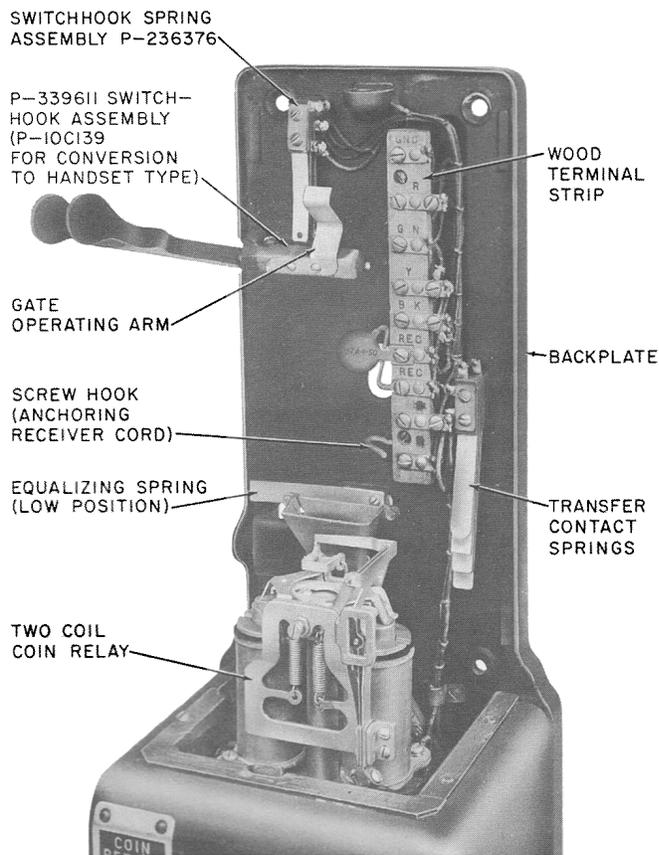
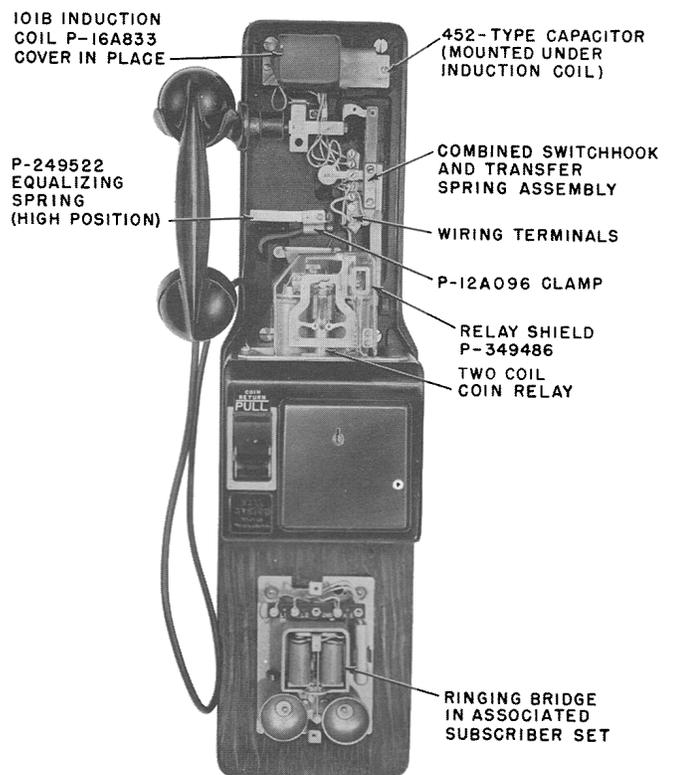

Fig. 4 — Earlier Type Coin Collector With Wood Terminal Strip
Fig. 5 — Combined Assembly — With Induction Coil and Capacitor
**2.03** Early coin collectors use a wood terminal strip for station wiring with separately mounted switch hook and transfer spring assemblies (Fig. 4) or a combined switch hook and transfer assembly (Fig. 5).
**2.04** The anti-sidetone induction coil and related capacitor of the talking circuit are mounted on the backplate of the 180 and 190 series coin collectors (Fig. 5). Induction coil types prior to the 180 series and all network types prior to the 236-type use an externally mounted subscriber set for both talking and ringing functions.